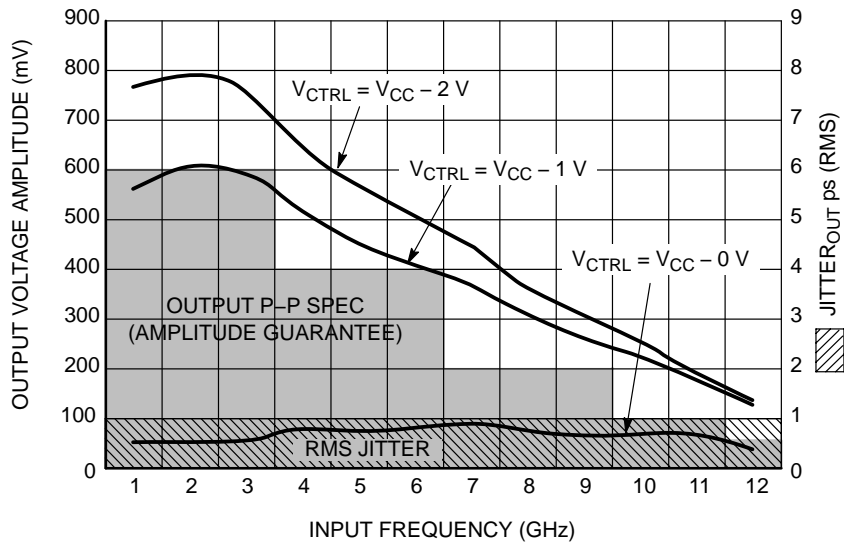

Figure 8. Output Voltage Amplitude ( $V_{OUTPP}$ ) / RMS Jitter vs. Input Frequency ( $f_{in}$ ) at Ambient Temperature (Typical)
29. Conditions include input amplitude of 500 mV and  $V_{CTRL} = V_{CC} - 2\text{ V}$ . Minimum output amplitude guarantee of 100 mV (see Output P-P Spec in Figure 8).
37. Conditions include input amplitude of 500 mV and  $V_{CTRL} = V_{CC} - 2\text{ V}$ . Minimum output amplitude guarantee of 100 mV (see Output P-P Spec in Figure 8).